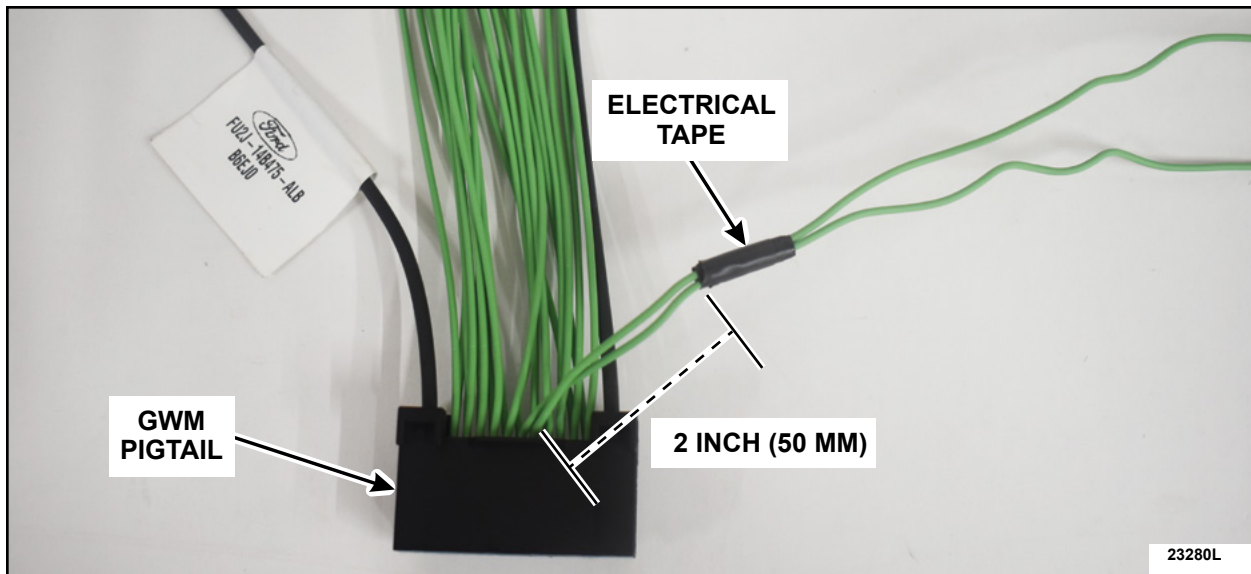

FIGURE 8
21. Measure 2 inch (50 mm) from the back of the GWM pigtail connector and apply a piece of electrical tape. See Figure 8.